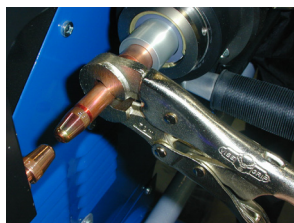

Figure 5.6a: Removing Piston Electrode
1. Grip piston electrode with a set of pliers or vise-grips (*fig. 5.6a*).
**Note:** Vise-Grips shown in *fig. 5.6a* are specially designed to hold round objects without damaging or scarring them. You can purchase a set from your local distributor or online at: [www.prospot.com](http://www.prospot.com)